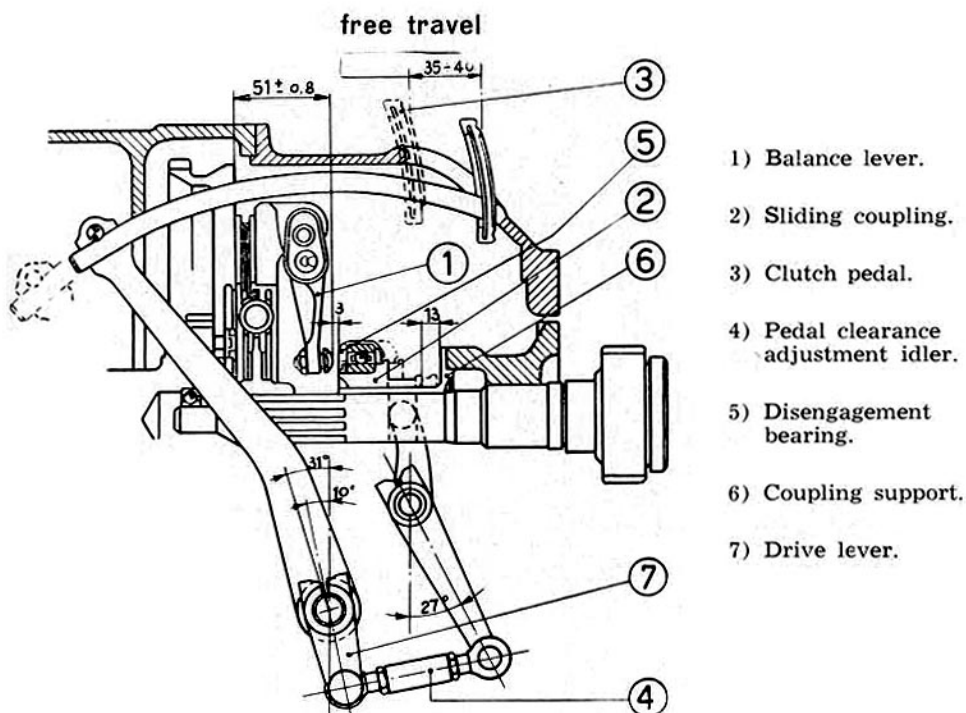

Fig. 40 - Clutch diagram.
Adjust the free travel by loosening the lock nuts on linkage (4) fig. 40, tightening the rear nut and then locking up.